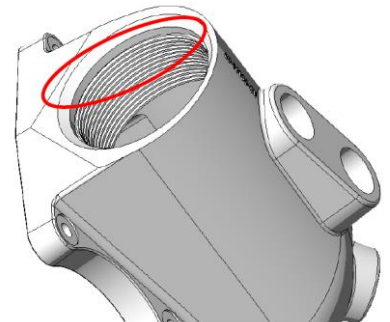

Figure 19
5. Check and clean the plunger thread, Figure 19.